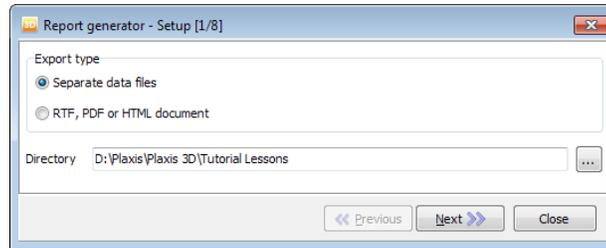

Figure 275: Report generator - Setup
**Step 1:** The report can be generated in a group of files or all the information can be combined in a single file (a RTF, PDF or HTML document). The directory where the report is stored should be defined (Figure 275: Report generator - Setup (on page 425)).